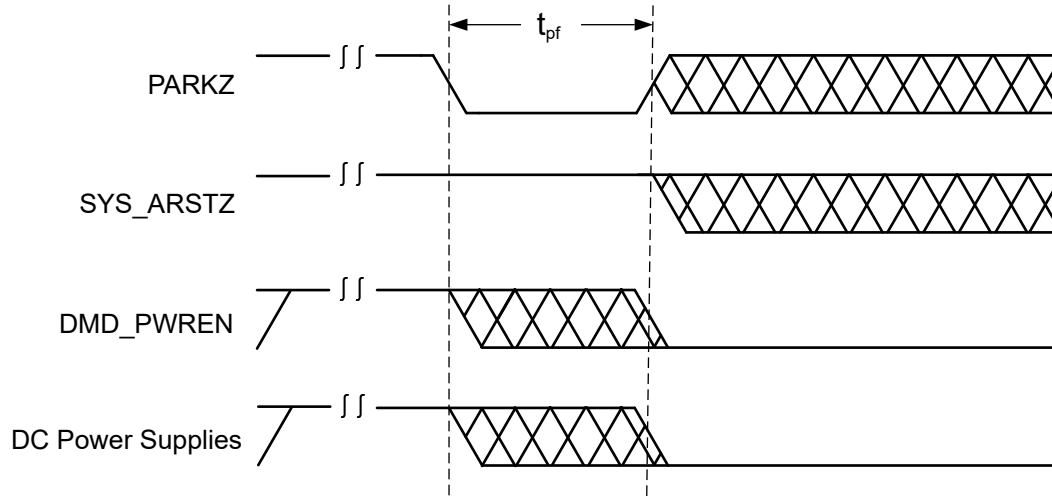

图 7-12. Removing Power After Asserting PARKZ
3. Following the deassertion of DMD_PWREN, power can be safely removed from the DLP chipset as shown in 图 7-12.